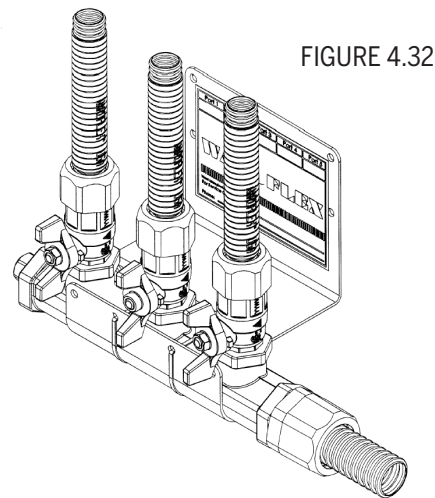

FIGURE 4.33
- D. A Manifold Station utilizing a pounds to inch regulator (figure 4.33) shall be installed in an accessible location to allow access to the regulator for inspection, service and replacement if required.